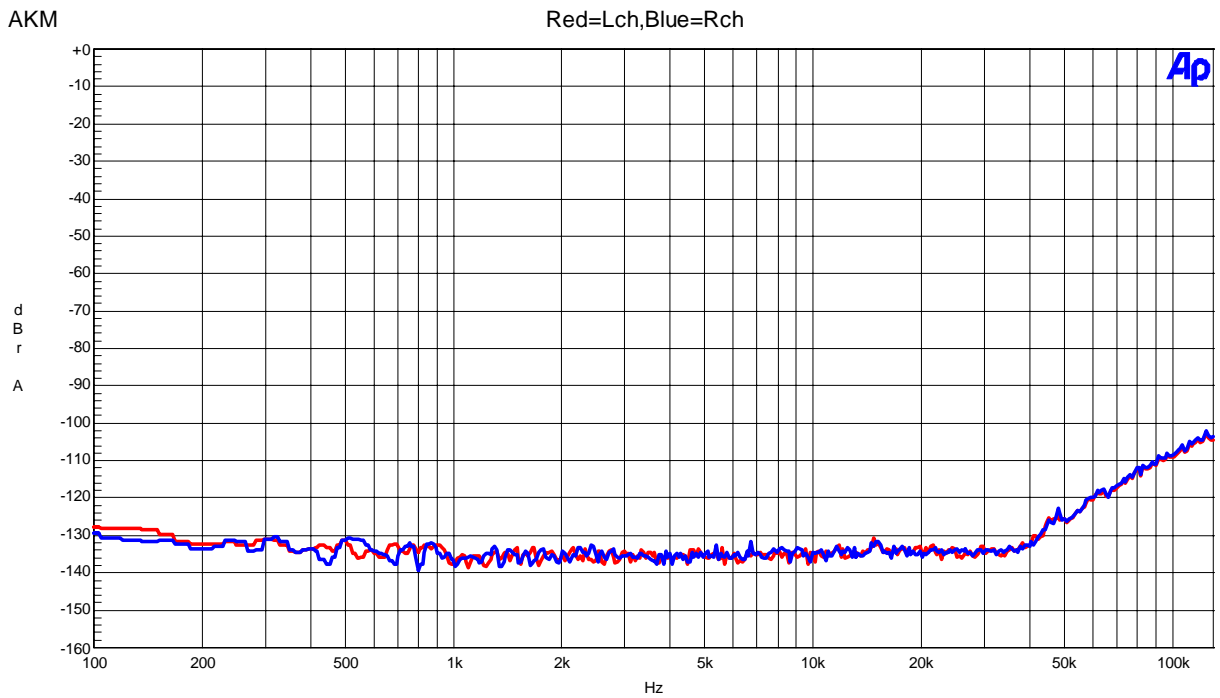

Figure 27. FFT(out-of-band noise)
- Figure 27. THD+N vs Input Level (Input Frequency =1kHz)